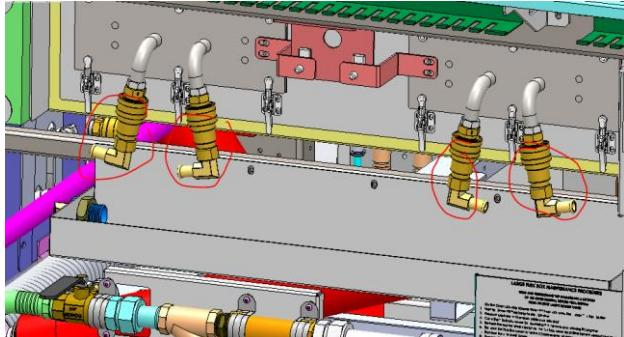
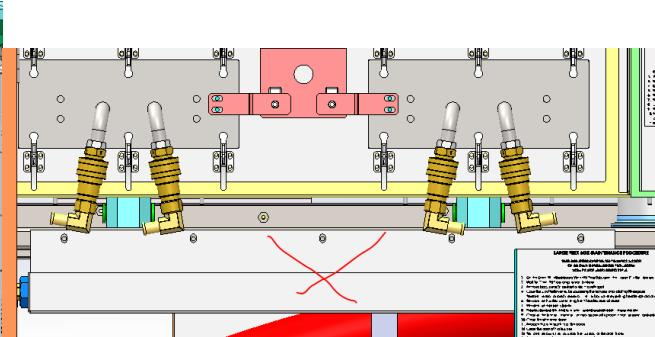

Fig 1
Fig 2
2. Remove Flat coil quick connector. Remove drip pan of flat coil , Retain all hardware. Set aside for reinstallation. (see Fig 1/Fig 2)